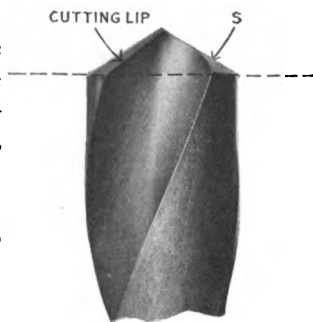

Fig. 6
- 23 To make clear just exactly what Lip Clearance *is* and what it *does*, let's look at a drill without *any* Lip Clearance. (Fig. 6.) Imagine this drill trying to cut into a piece of steel. It would be impossible—because the surface "S" would always be in contact with the metal and would effectively prevent the cutting edge from biting further into the metal. Such a drill would merely *rub*—around and around—without penetrating.